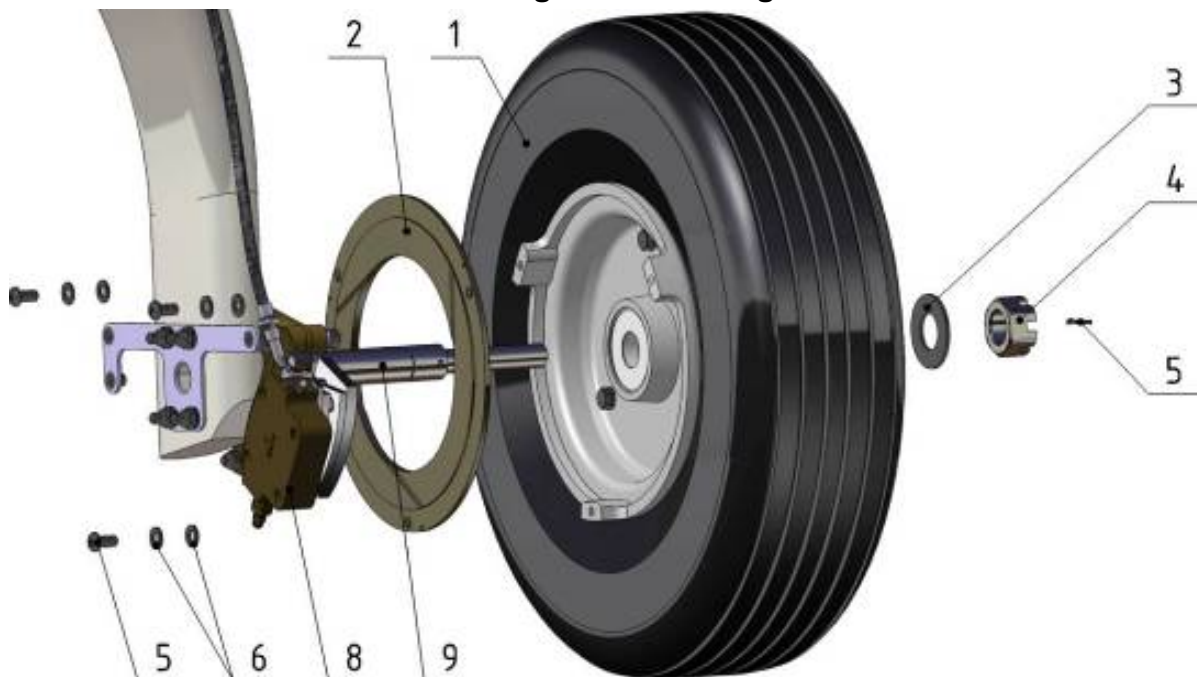

Fig. 32-10-7
B. Main Wheel Uninstalling (Fig. 32-10-7)
C. Main Wheel Installing (Fig. 32-10-7)